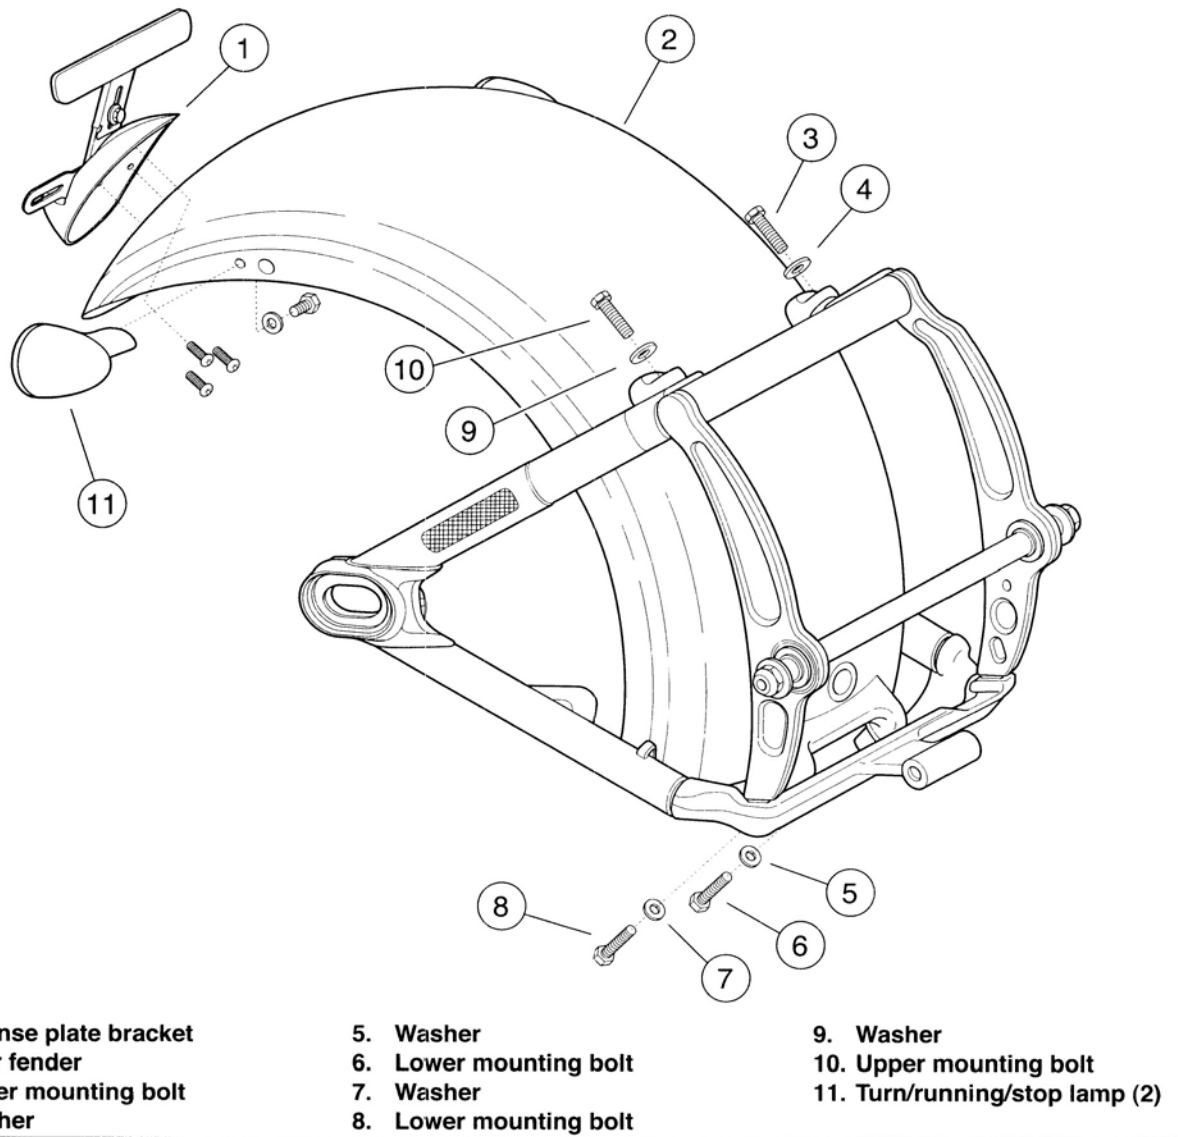

Figure 2-114. Rear Fender: FXCWC
4. See Figure 2-114. Remove lower mounting bolts (8, 6).
1. See Figure 2-114. Install license plate bracket (1) and turn/running/stop lamps (11), if removed. See 7.19 TURN SIGNALS AND RUNNING LIGHTS, Lamp Replacement.
2. Carefully place fender (2) into position on motorcycle. Support rear of fender with a clean, folded shop cloth.
5. Torque upper mounting bolt (10), then upper mounting bolt (3) to 30-35 ft-lbs (40.7-47.5 Nm).
6. Torque lower mounting bolt (8), then lower mounting bolt (6) to 28-32 ft-lbs (38.0-43.4 Nm).
7. Loosen upper mounting bolts (10, 3), and re-torque upper mounting bolt (10), then upper mounting bolt (3) to 48-52 ft-lbs (65.1-70.6 Nm).